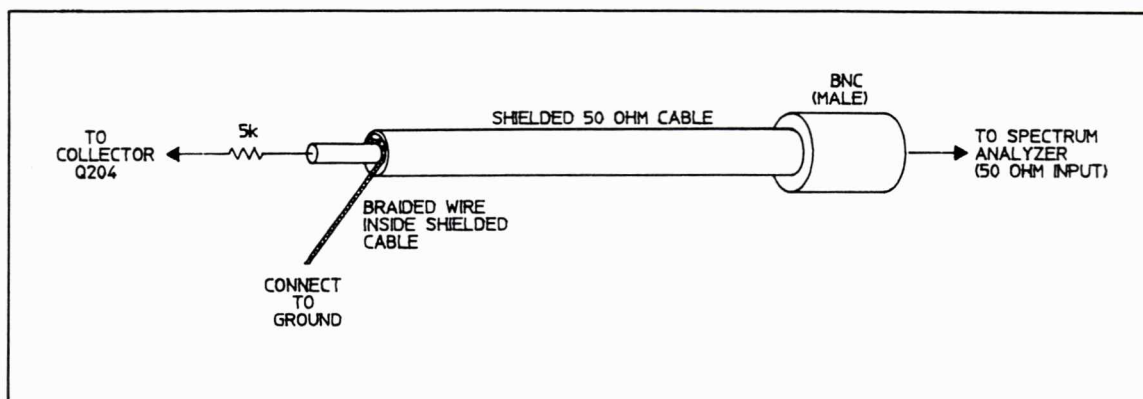

Figure 8-K-1. Gain Stage High Frequency Troubleshooting Probe.
i. For high frequency problems, construct the probe shown in Figure 8-K-1. Using this probe, examine the collector of Q204 with a spectrum analyzer. For example, program the HP 3325B for a 15 MHz fundamental signal (the other harmonics should still meet spec).